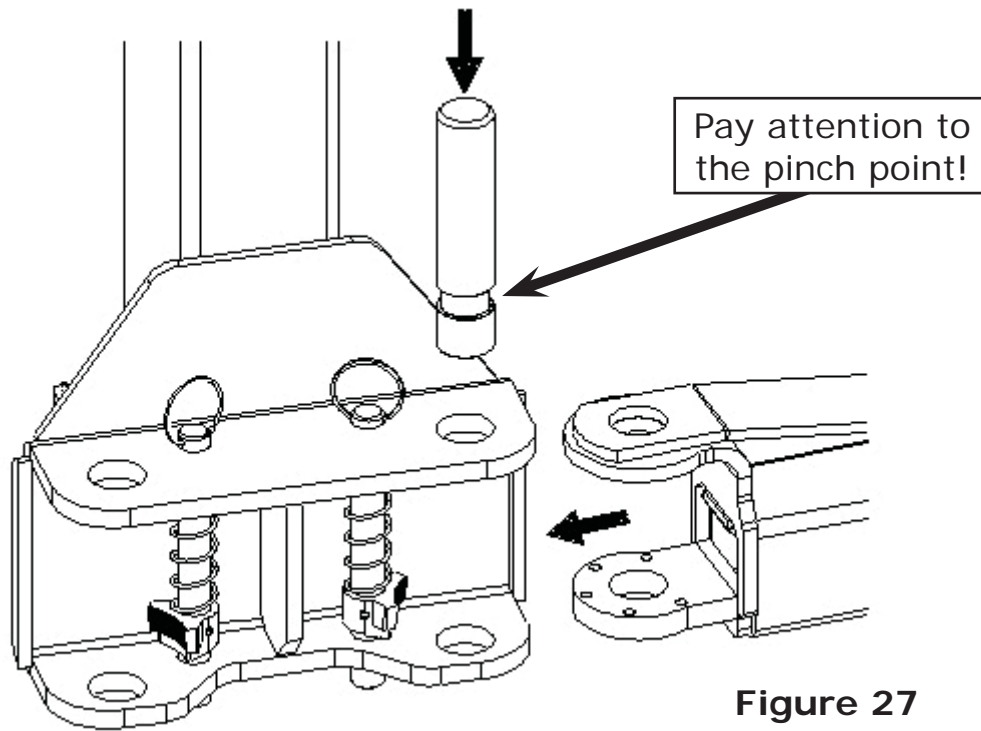

Figure 27
- Slide the arm into the carriage yoke (ref. fig. 27);
- Install the arm pin into the yoke hole and arm hole (ref. fig. 27);